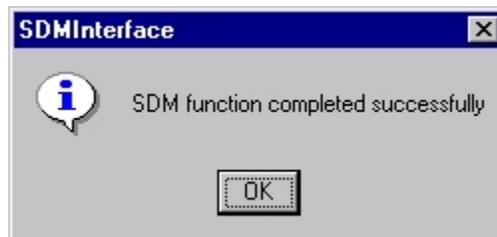

Figure 2-5. SDMInterface
6. Upon successful installation of the sort plan, the SDMInterface window will appear. Click **OK** to close. See Figure 2-5.